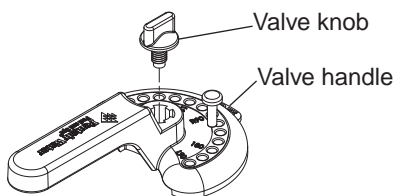

Figure 1. Diverter Handle/Knob
- Unscrew and remove the diverter valve knob and handle. Remove the four (4) screws from the valve assembly top cover (embossed arrows indicate the screw locations). See Figure 1, 2 and 3.